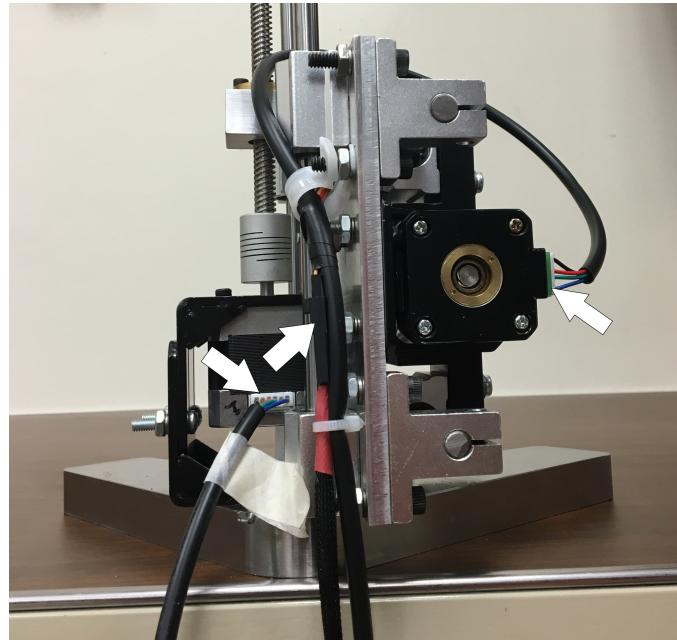

Figure 15: Molex cables secured and out of the way
12. Ensure the three molex cables are securely plugged in to the ARIA (see Figure 15)